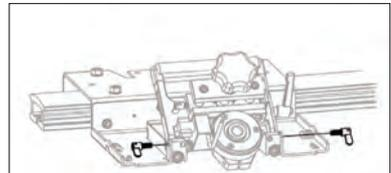

Figure 9
4. Tighten the BAB1590 with the screws that are included in the BAB1590 box. (See Figure 9)